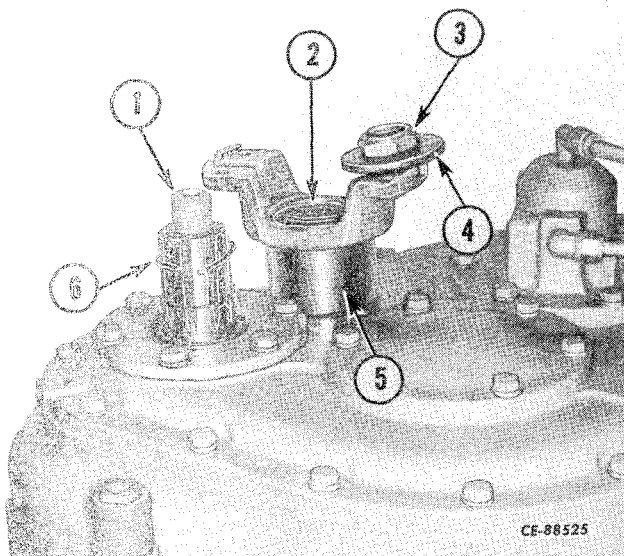

Figure 4-29
Remove the input yoke lock nut (3, Fig. 4-29), washer (4) and "O" ring (2). Remove the input